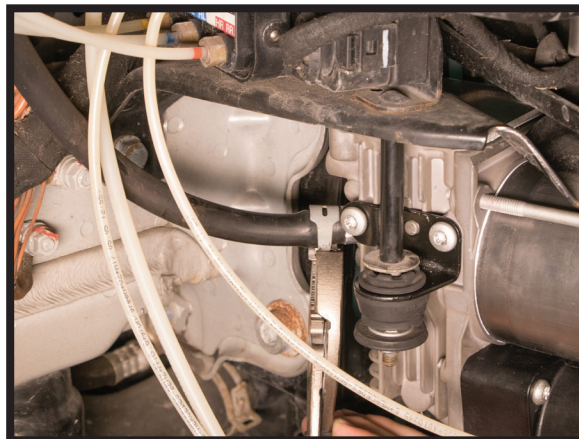

FIGURE 10
6. REINSTALL THE LARGE RUBBER AIR HOSE ONTO THE COMPRESSOR. (FIGURE 10)